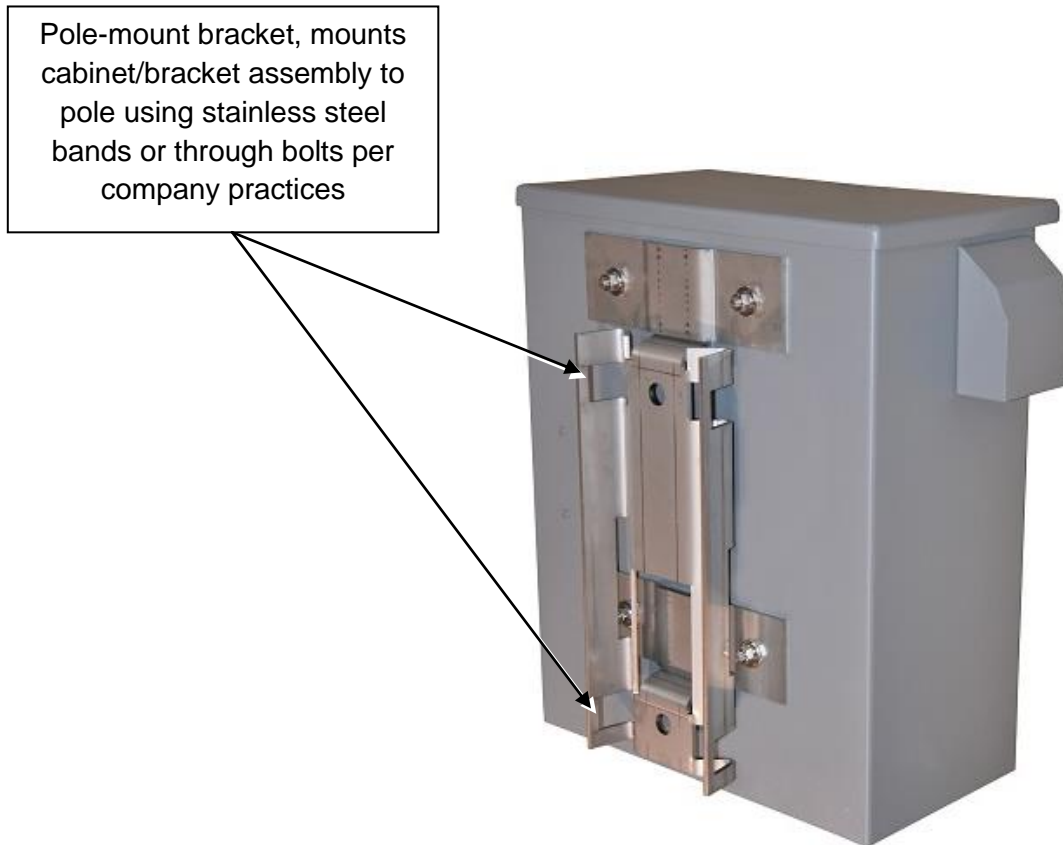

Figure 10: Mounting of XUPS to a Pole
3.1 TYPE – The Outdoor-XUPS-1000-mini is configured for Pole-Mount installation only (see Figure 10).
- Slid the unit onto the pole-mount bracket as shown in figure 10.